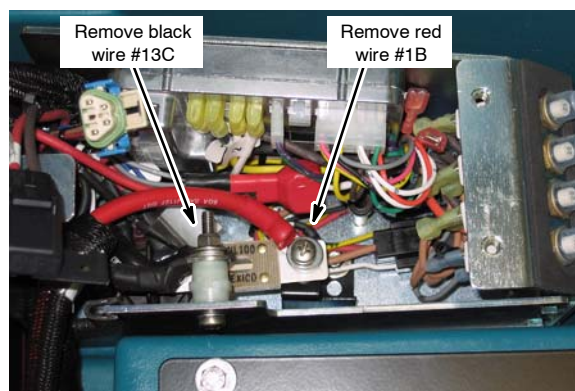

Fig. 3
3. Remove the red (#1B) and black (#13C) wires coming from the charger plug. Discard charger plug assembly (Figure 3).